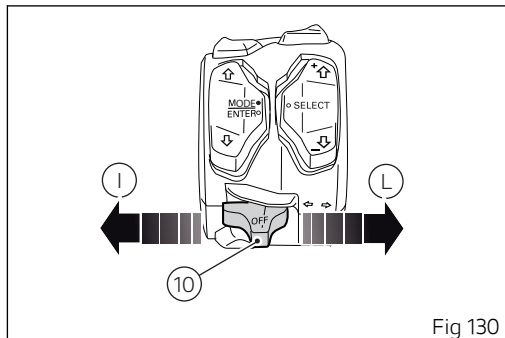

Fig 130
When turning the key to off, the display shows the page where to switch on the parking lights: to turn on the parking lights, keep pressed button (10, Fig 130) in position (I).